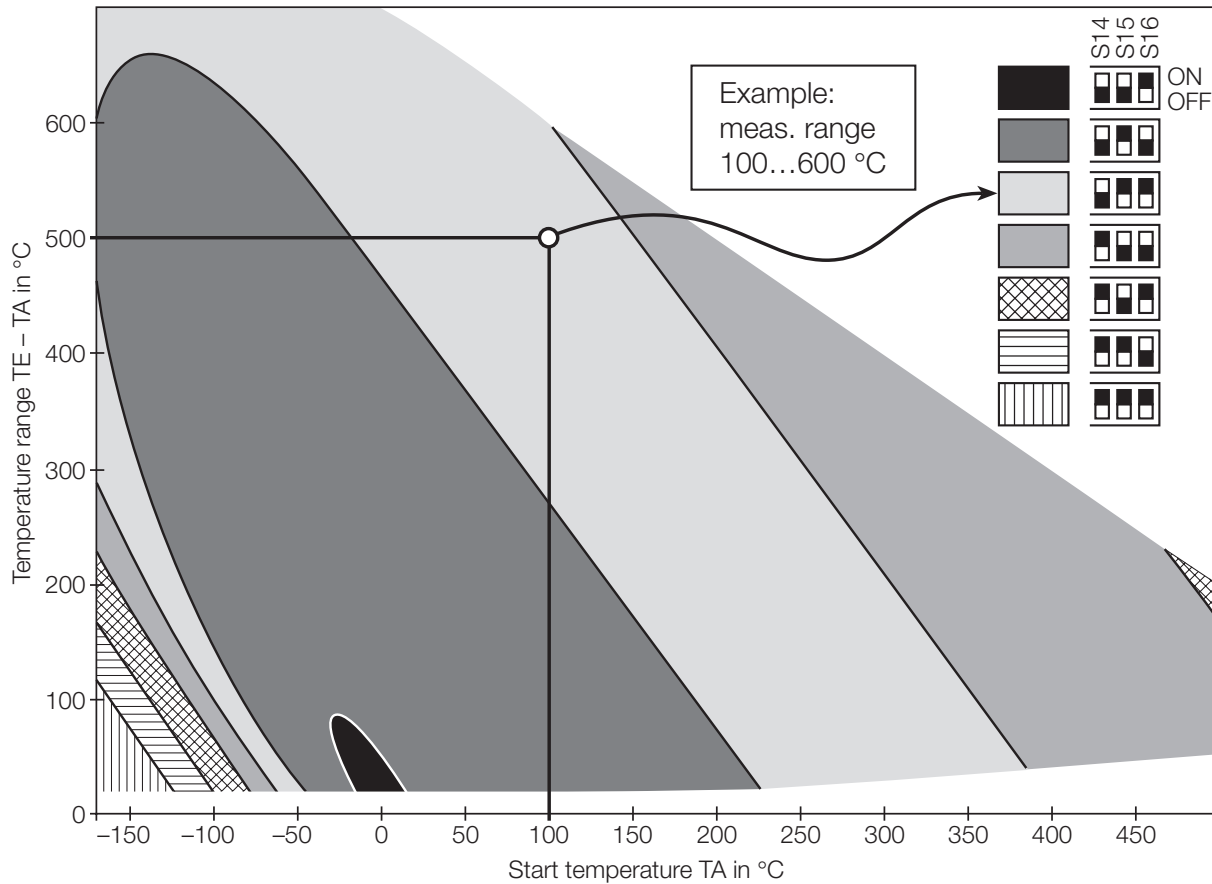

Fig. 7. Switch positions (S14...S16) for linearisation.
A switch combination has to be set to linearise the range that depends on the minimum value of the measuring range (TA) and the temperature range (TE - TA). Fig. 7 shows how the switch positions are determined for the example of a